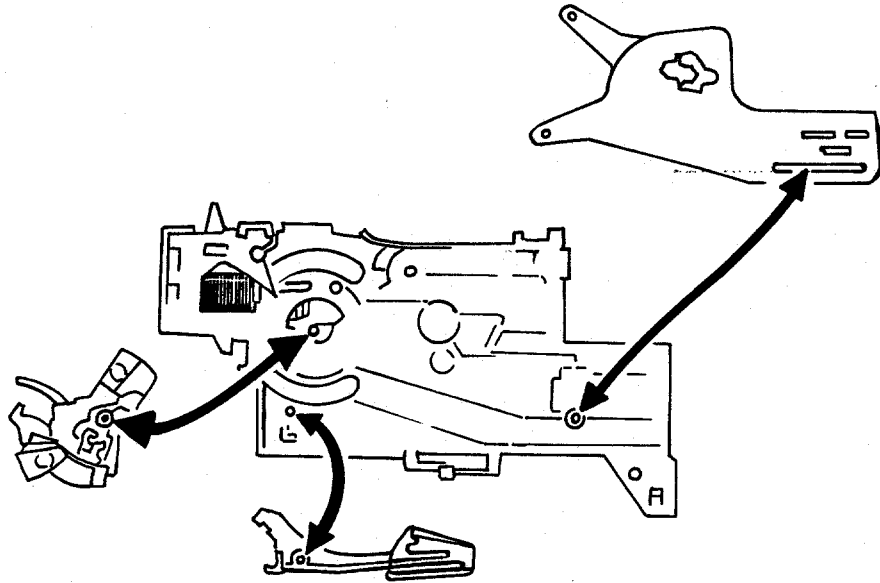

Fig. 21 Removing Inertia, Walking Beam, Shutter Latch and Shutter Blades
24. Remove Inertia and Walking Beam as an assembly, keeping Inertia Spring in place (Fig. 21).
25. Wearing finger cots or lintless gloves, remove Shutter Latch and Shutter Blades (keep blades in the same relative positions and order in which they were removed). See Fig. 21.